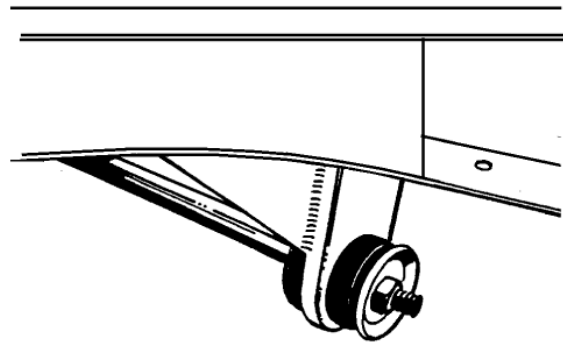

Figure 8- Install Strut Rods
10. Install the strut rod onto the control arm. Now, assemble onto the strut rod the large rubber bushings, including the cupped washers, and the strut mount plate. Be certain to fully tighten the nut on the strut rod to its fully seated position. See **Figure 8**. There are two rubber bushing sets available; the standard replacement and the improved set. We recommend the improved set, as it provides more stability to the front suspension. The Pinto and Mustang strut rods are different lengths. We recommend the use of Pinto strut rods, as they are bent less than the Mustang strut rods. You will find that with either strut rod the strut rod plate does not line up with the bottom of the frame rail. The strut rod must be heated in the elbow area and bent outward. The rod is bent outward until the strut mounting plate lines up to the frame rail. You will find that because the Pinto strut rod is initially bent less and requires much less bending. The strut rod will act as an alignment fixture while you tack weld the mount plate in place, then tack weld the gusset in place. Remove the strut rod, bushings, and arm, and finish welding to the frame and each other.